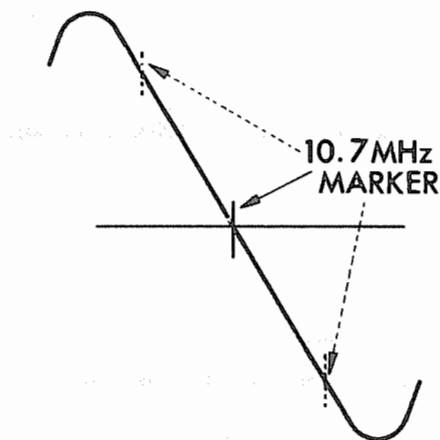

Fig. 4
FM IF ALIGNMENT USING FM SWEEP GENERATOR (See fig. 4, 5)
2. If the ceramic filters except RED are used, 10.7MHz marker will not appear at the center of "S" curve (See fig. 4) in these cases disregard 10.7MHz marker.